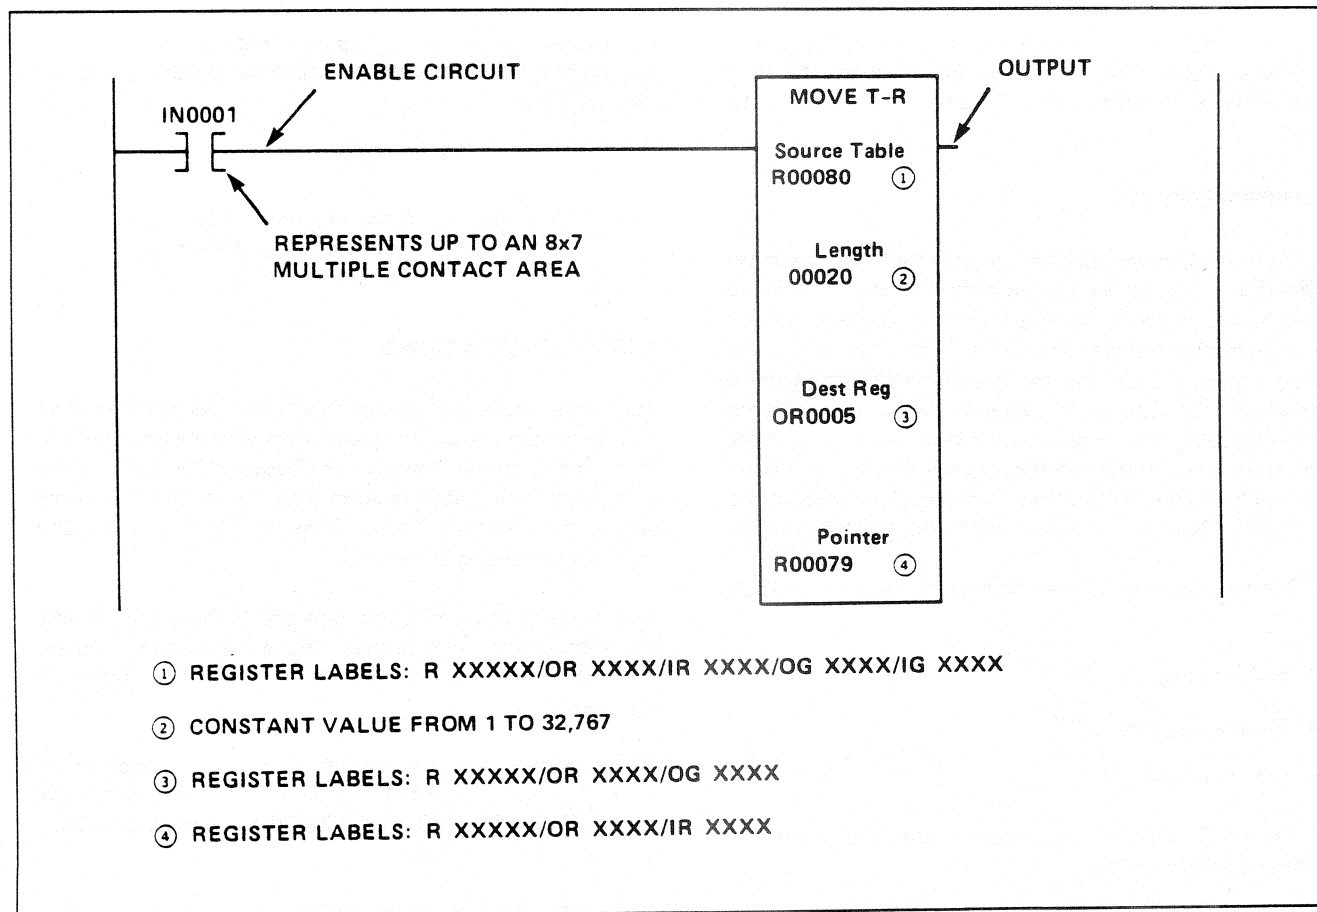

Figure MTR-1. Move Table-to-Register Function (Typical)
The Move Table-to-Register programmable function allows the transfer of data from a single register contained in a table of registers into another specified register. The location from which the data is transferred is determined by the Pointer Register. Figure MTR-1 shows a typical circuit containing the Move Table-to-Register function. Observe the Figure and note the following 3 points:
3. If the enable circuit is nonconducting, or if the value of the Pointer Register is 0, or is larger than the table Length, no data transfer occurs. (In Figure MTR-1, 21 would be larger than the specified Length.)